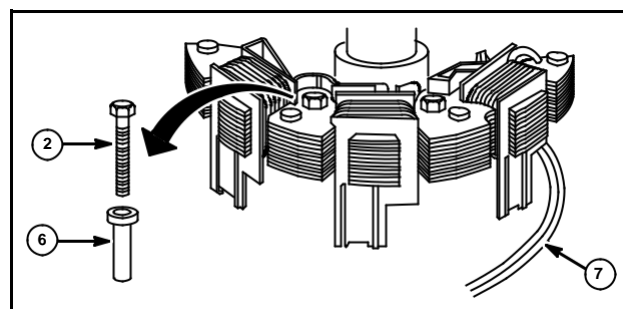

Fig. 23
2. Remove ground wire (5) or rectifier assembly (3, early style) from starter drive housing.
3. Remove the two stator mounting screws (2) and bushings.
4. Install new stator assembly (4) with stator mounting screws and bushings. Be sure leads (7) are properly positioned as shown in Fig. 23.
5. While tightening mounting screws (2), push stator toward crankshaft to take up clearance in bushings (6).